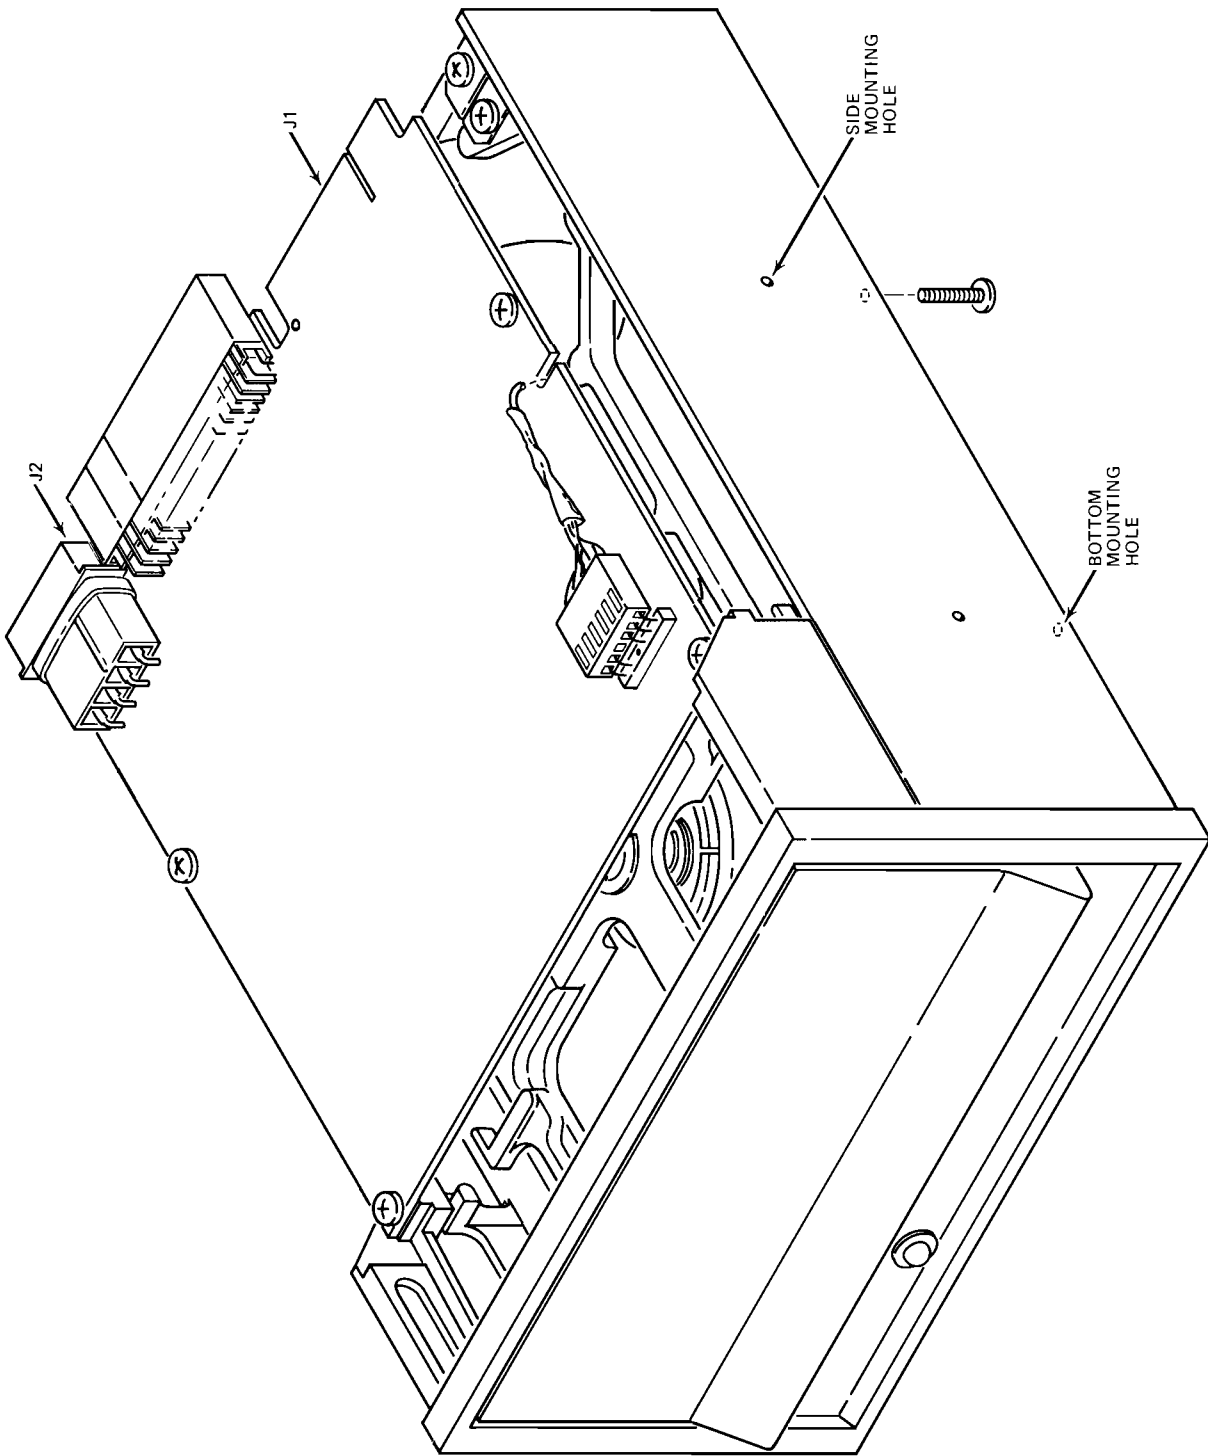

Figure 2-1. Model FDD100-5 Disk Drive, Isometric View
- A. Horizontally, with PWB facing up as shown in Figure 2-1.